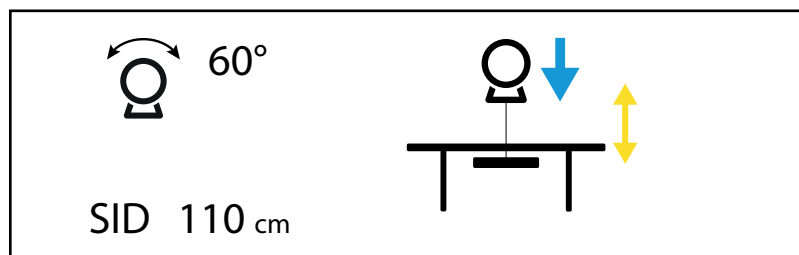

Fig. 3-11 Auto tracking table
2. The *Auto tracking, table* icon is shown on the OTC display, see **Fig. 3-11**.
3. A blue arrow will indicate the direction of movement of the OTC to reach the correct SID, see **Fig. 3-11**.